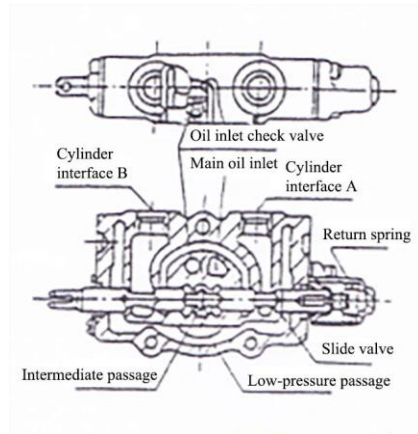

Fig. 5-4 Push-in Slide Valve
(1) operation of slide valve (taking the inclined slide valve as an example)
a) Neutral position (Fig. 5-4)